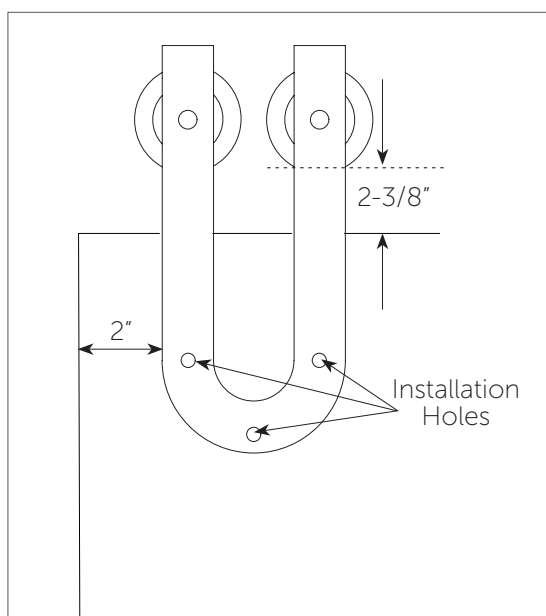

Figure 2
3. Adjust the placement of the hanger for a 2-3/8" gap between the top of the door and the bottom edge of the wheel. Ensure the widest portion of the hanger resting on the door is 2" from the edge of the door (Figure 2).
4. Mark the center of each installation hole with a pencil (Figure 2).